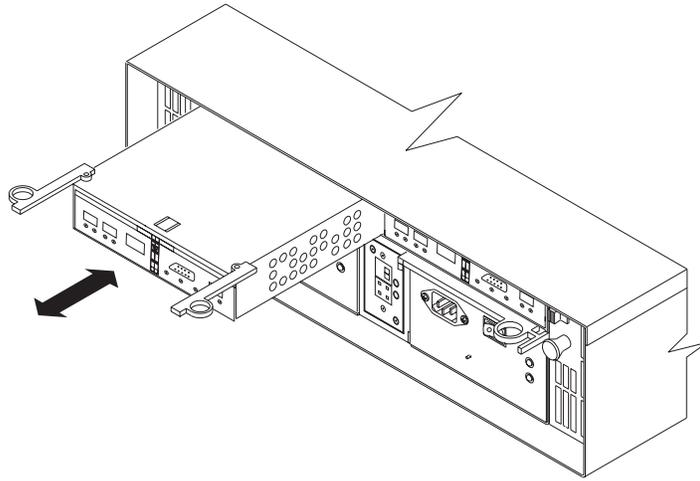

Figure 56. Installing a new RAID controller
20. Install the RAID controller, as shown in Figure 56.